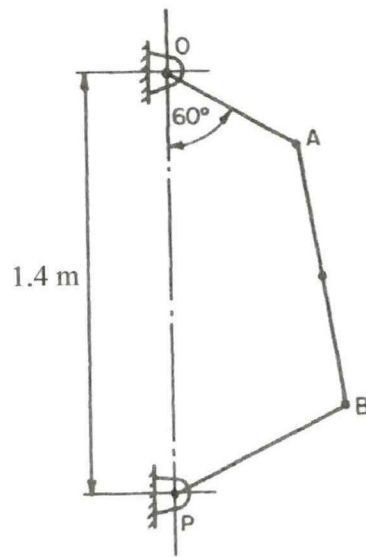
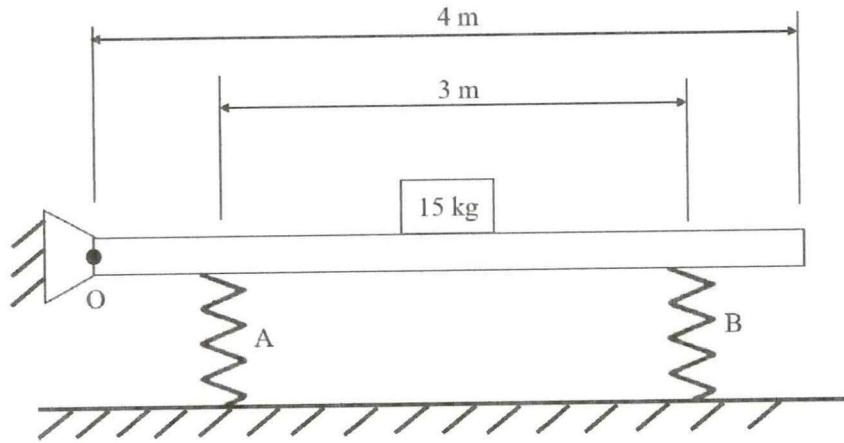

Figure Q5(b)
Figure Q6(b)
- Q5** (a) Describe **four (4)** types of inversion in slider crank mechanism and example for each inversion. (4 marks)
- (b) The four bar chain in **Figure Q5(b)** comprises of link OA = 0.5 m, link AB = 0.9 m and link BP = 0.7 m. Crank OA is rotating clockwise with an angular velocity of 2.6 rad/s which is decreasing at 4.5 rad/s^2 .
- (i) Redraw the **Figure Q5(b)** using scale of 1 cm : 0.2 m. (3 marks)
- Q6** (a) Give **two (2)** examples for desirable vibration and undesirable vibration. (4 marks)
- (b) A uniform platform of 4 m long of mass 50 kg carries a small central load of 15 kg and is hinged at point O as in **Figure Q6(b)**. It is supported in the horizontal position by two springs symmetrically places at point A and B, whose stiffness are 16 000 N/m and 4000 N/m respectively. If the moment of inertia of the platform through its center is given by $\frac{1}{12}ml^2$ where m and l are the mass and length of the platform respectively: